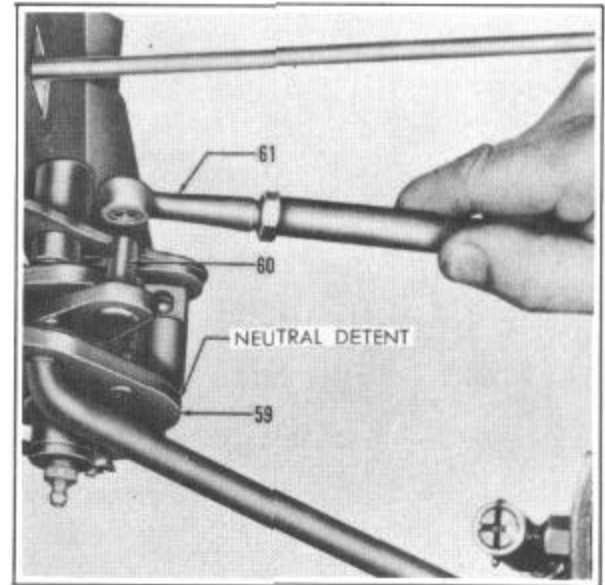

FIGURE 30
On models 501, 502, 503, 504, with transmission in neutral disconnect rod (61) at pin (60), Figure 30.